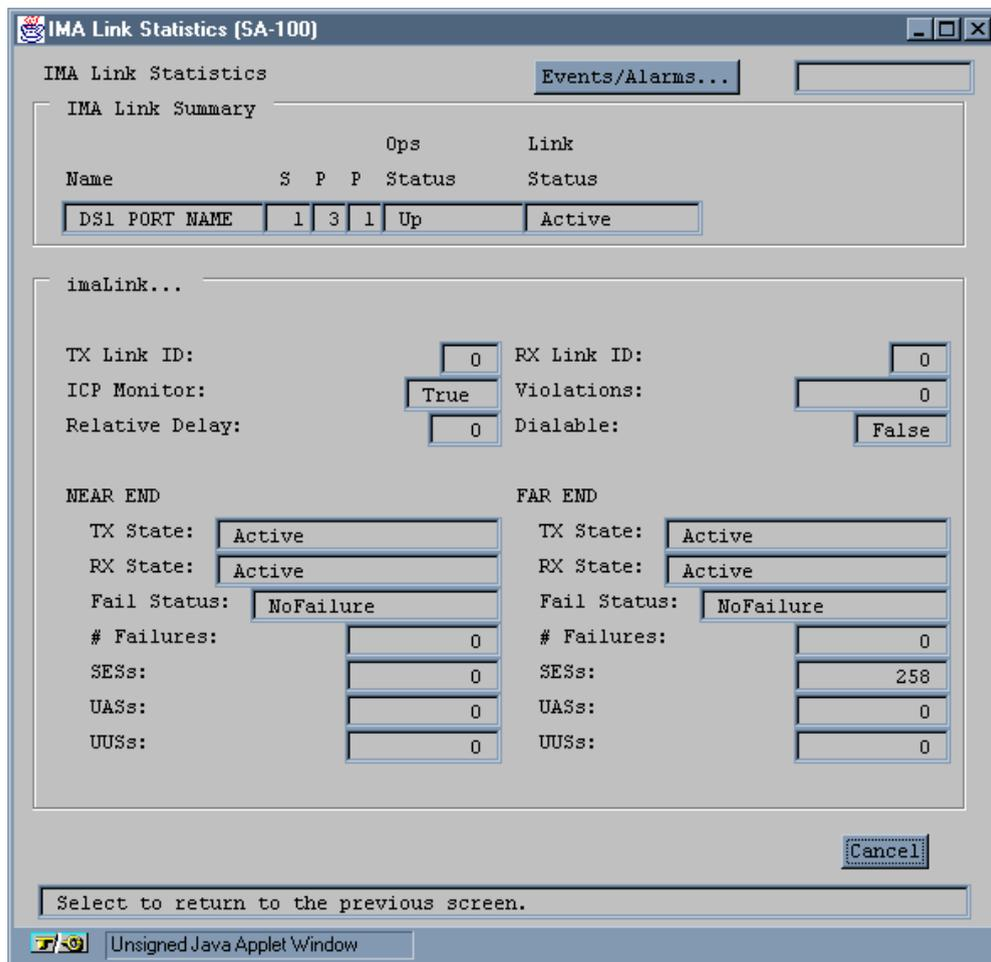

Figure 4-15. IMA Link Statistics Window
3. Select an individual link from the list in the Select IMA Link window. The IMA Link Statistics window appears (Figure 4-15):